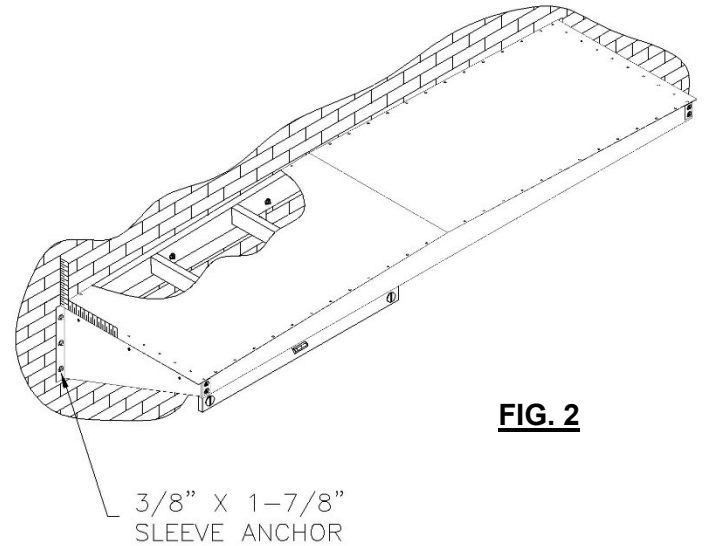

FIG. 2
- Place head frame on marks on wall (Fig 2.).